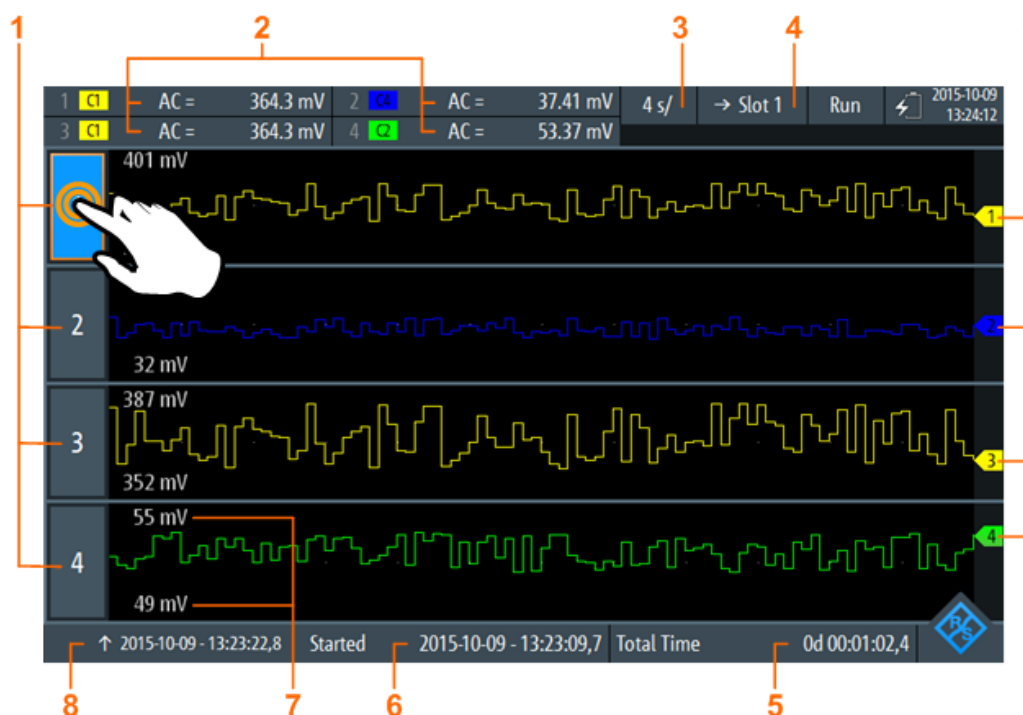

**Figure 8-1: Logger display, view of all logged scope measurements**
1. To switch to one-log-view, tap on one of the logged measurements as shown in Figure 8-1.